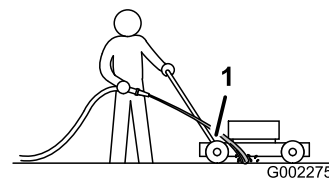

Figure 34
3. Hold the running garden hose at handle level and direct the water to flow on the ground just in front of the **right** rear tire (Figure 34).